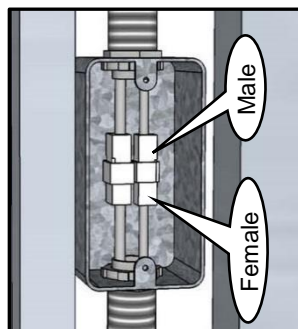

Figure 30
- 2** On 2-stop lifts, one set of wires has female connectors and the other set has male connectors. Match up each male and female connector and seat them firmly together. (see Figure 30)